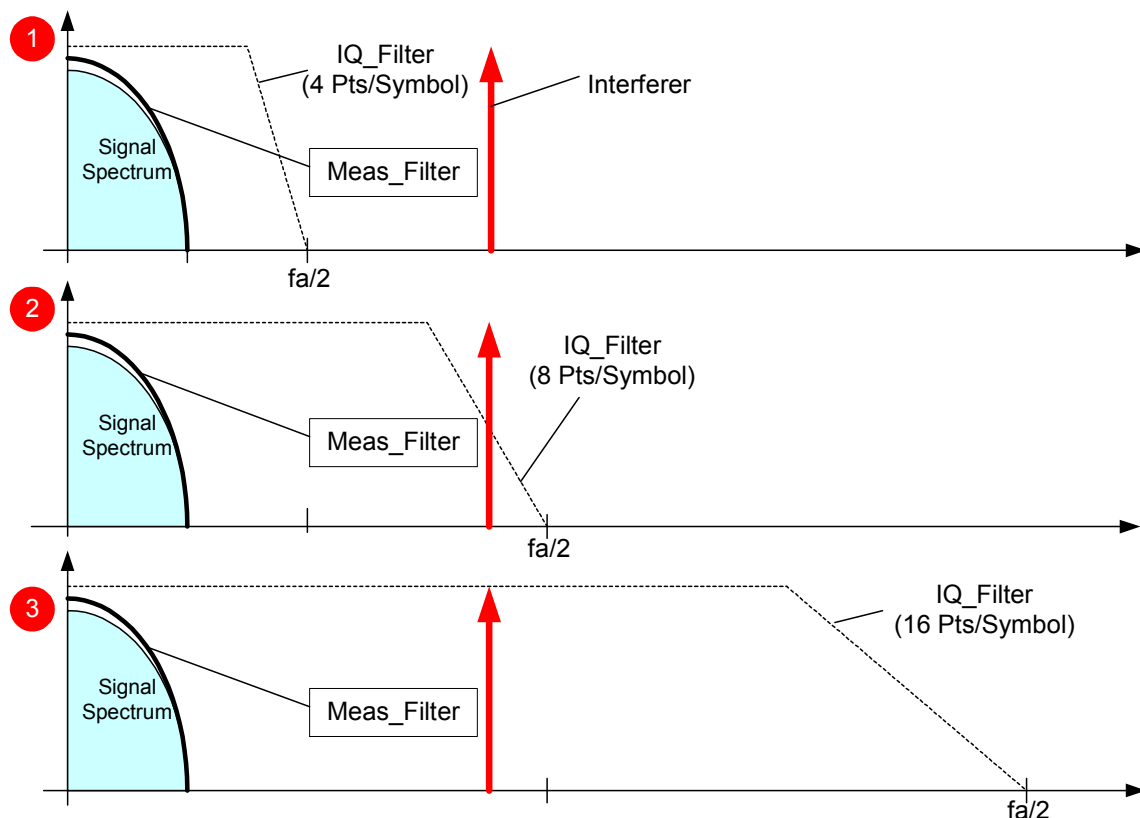

Fig. 27 Selected oversampling rates (I/Q bandwidth, interference)
Fig. 27 shows the spectrum of a digitally modulated signal that was sampled with the oversampling rates 4 (1), 8 (2) and 16 (3).